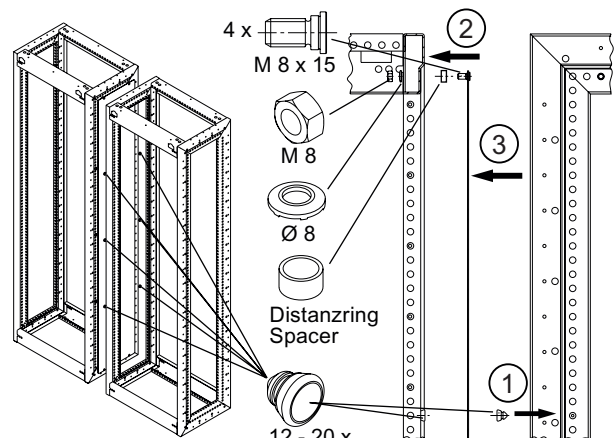

Fig. 7
- 2 Mount the internal partition using four M 8x15 threaded bolts, distance washers, 8 contact washers and M 8 four nuts each. See Figure 7.